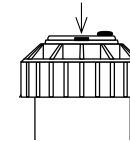

Figure 4
1. To access to the nozzle, insert a flat blade screwdriver into the lifting socket and lift upward (Figure 4)